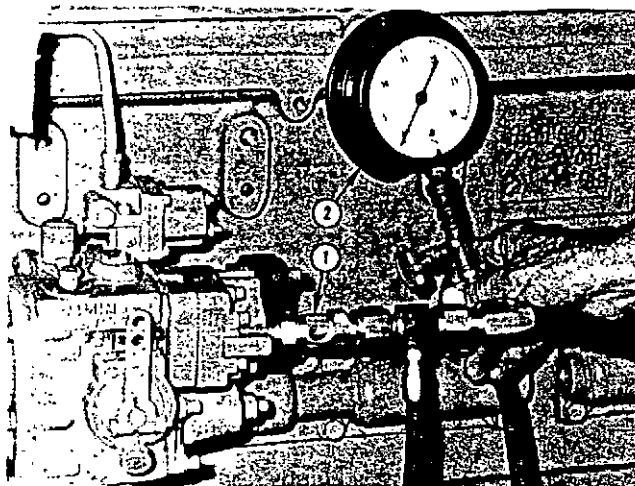

Fig. 5-2, N11917. Checking air leaks with ST-998 Sight Gauge
2. If there are indications of air leaks on suction side of fuel pump, check for air leaks by placing ST-998 Sight Gauge (1, Fig. 5-2) in the line between fuel filter(s) and pump. Bubbles over 1/2 in. [12.70 mm] long or "milky" appearance indicates an air leak. Find and correct.